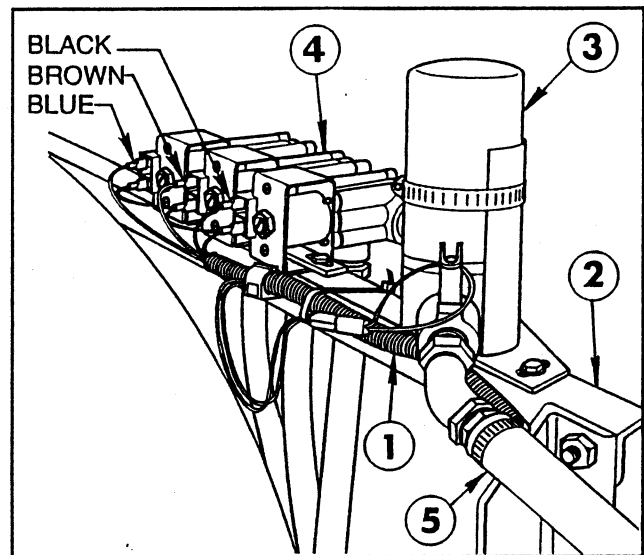

FIG. 14
1. Route the Flow Control Cable up, along the left Boom Mount, and across the Cross Support Angle, to make the connections to the Motorized Control Valve and the Solenoid Valves. See FIG. 14.